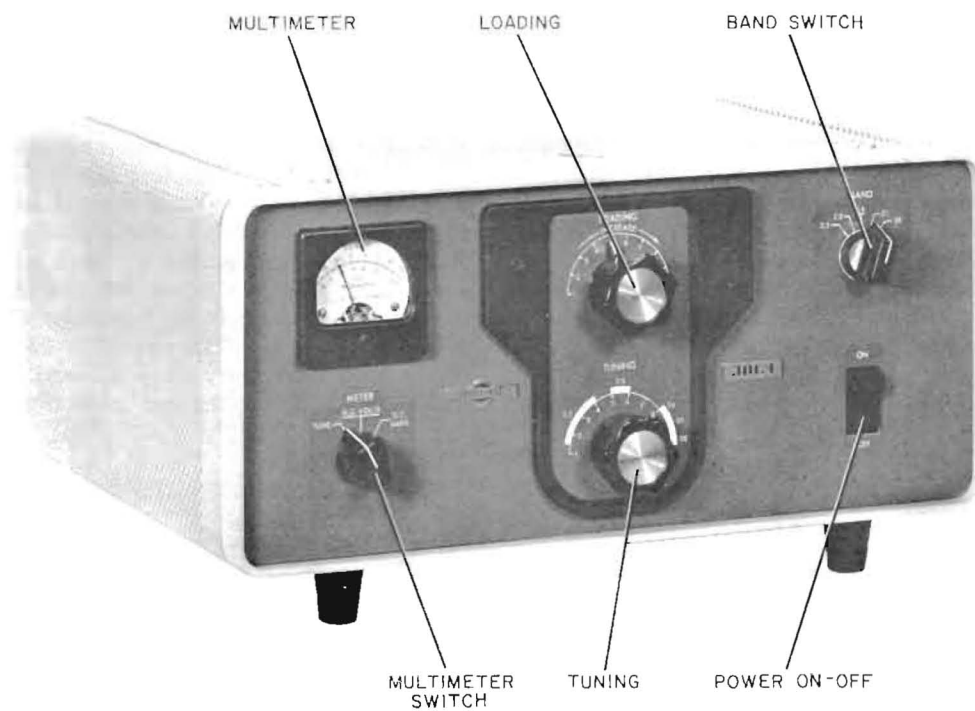

Figure 2-1. 30L-1 Operating Controls
b. Make sure the ON-OFF switch in the 30L-1 is in the OFF position as shown in figure 2-1.